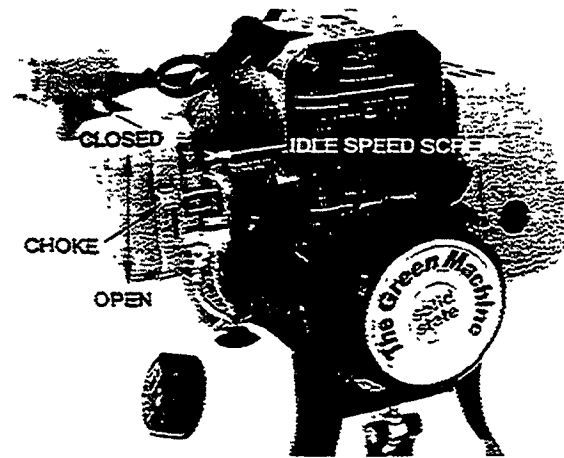

Figure 8
- Place choke lever in the closed position. (Figure 8).